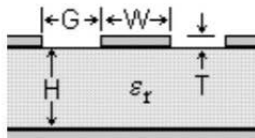

Figure 7.4. RF Trace Design Example
- For reference, Figure 7.4 RF Trace Design Example on page 36 shows a set of parameters for a $50\ \Omega$ trace. Trace impedance should always be matched to the particular stack-up used on the host board.